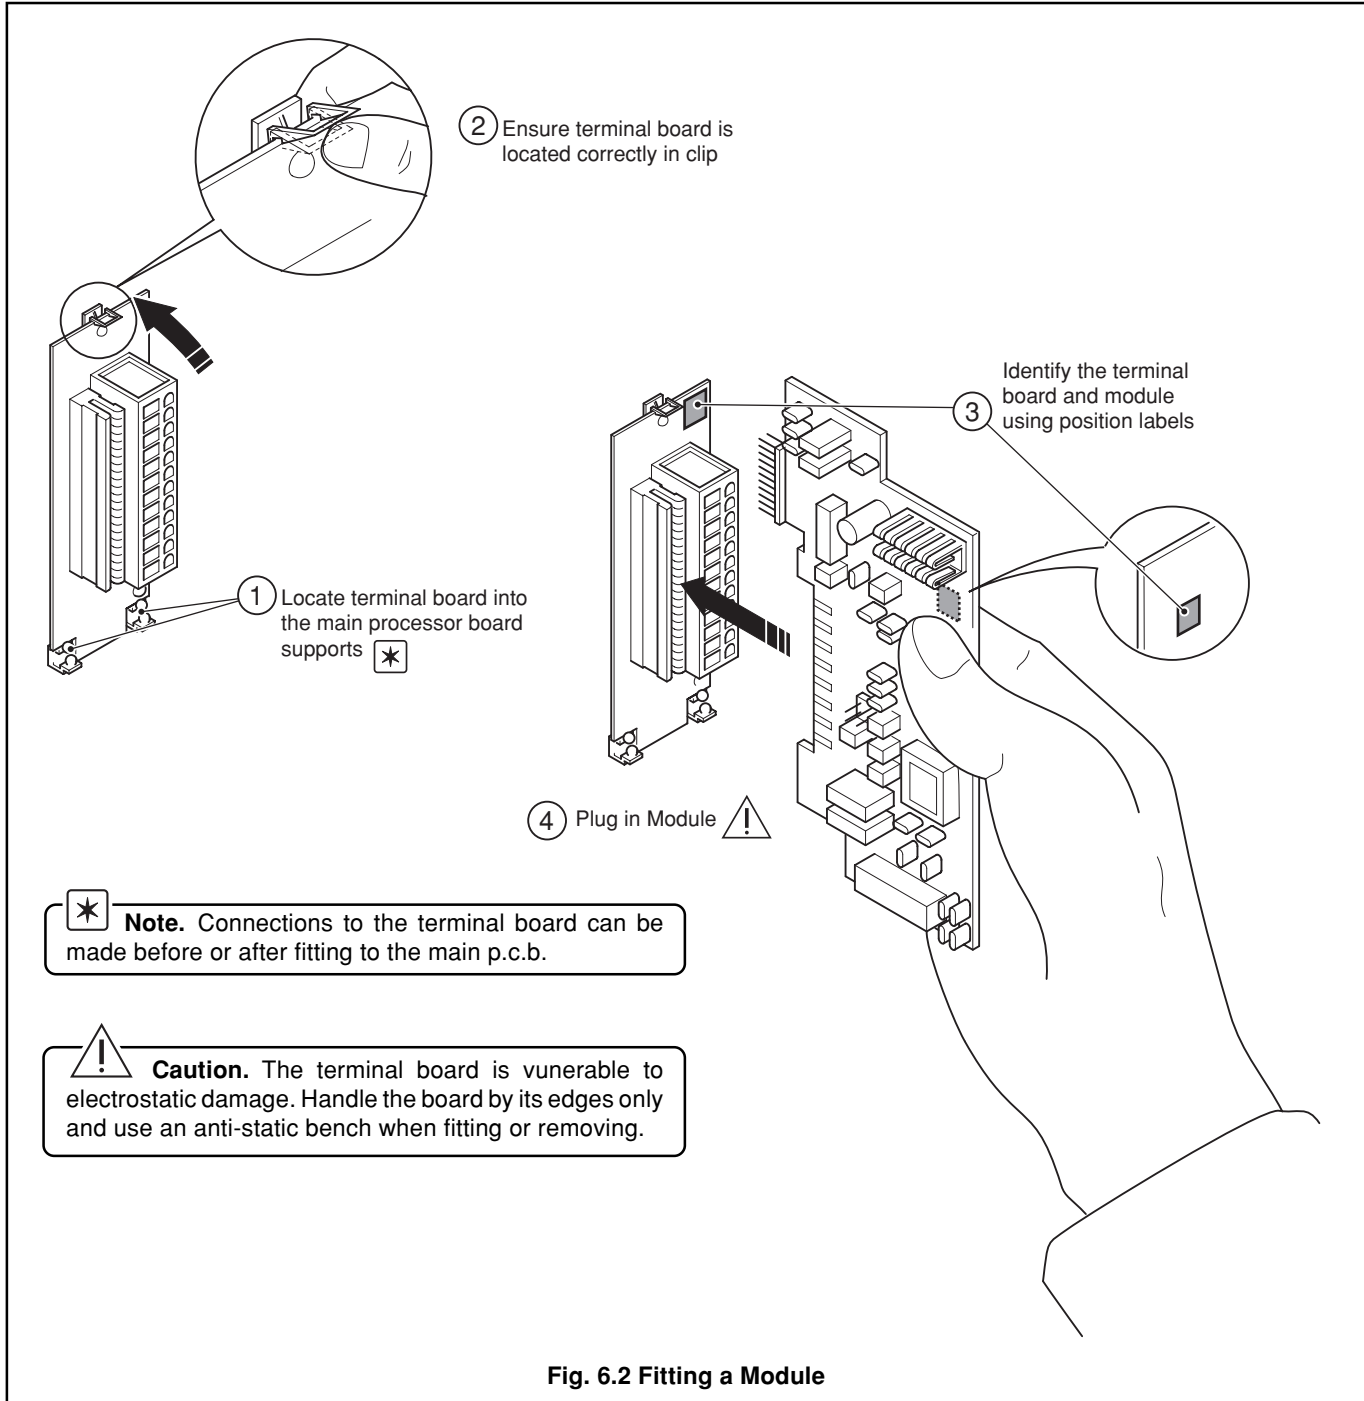

Fig. 6.2 Fitting a Module
- g) Fit the required module as shown in Fig. 6.2.